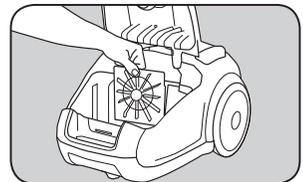

Fig. 3
4. Pull the filter up and out of the bag compartment and discard (Fig. 3).